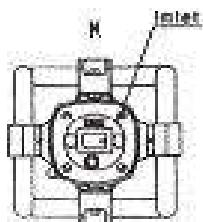

fig.2
6.When every shift operates, he outside of the motor should be cleaned whenever necessary. Especially the motor's inlet and exhaust ventilation passage must always be kept clear. (as fig.2)